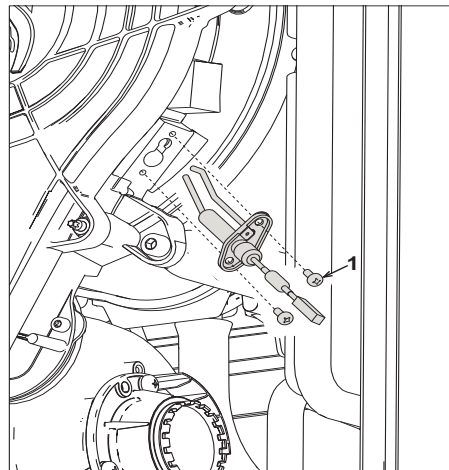

fig. 46
- To clean the exchanger, it is advisable to remove the electrode (see fig. 46).